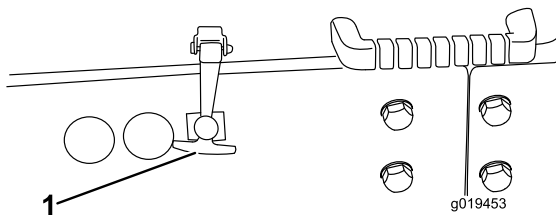

Figure 28
1. Park machine on a level surface. Release hood latch and open hood (Figure 28).